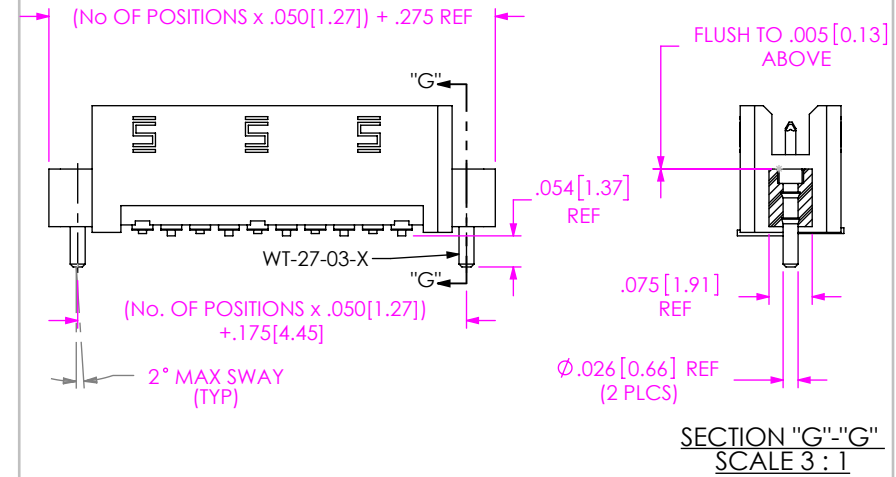

FIG 8
-WT OPTIONS) (SEE FIG 8, SHEET 3)